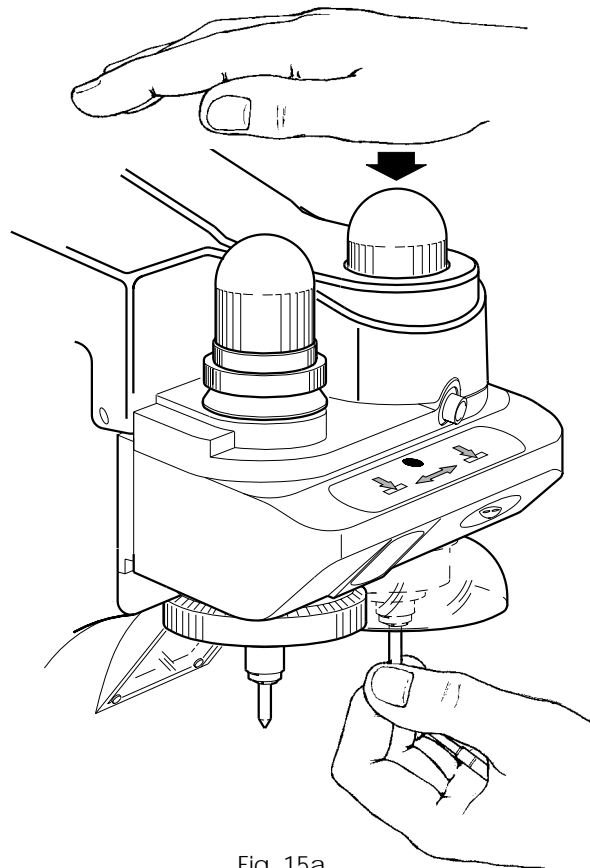

Fig. 15a
- push button (U) while unscrewing knob (M1).
**Warning:** if the tools are not released entirely from the collet after loosening knobs (M) and (M1) exert slight pressure on the knobs with the right hand (Fig.15a), holding the tools with the left hand to prevent them from dropping.